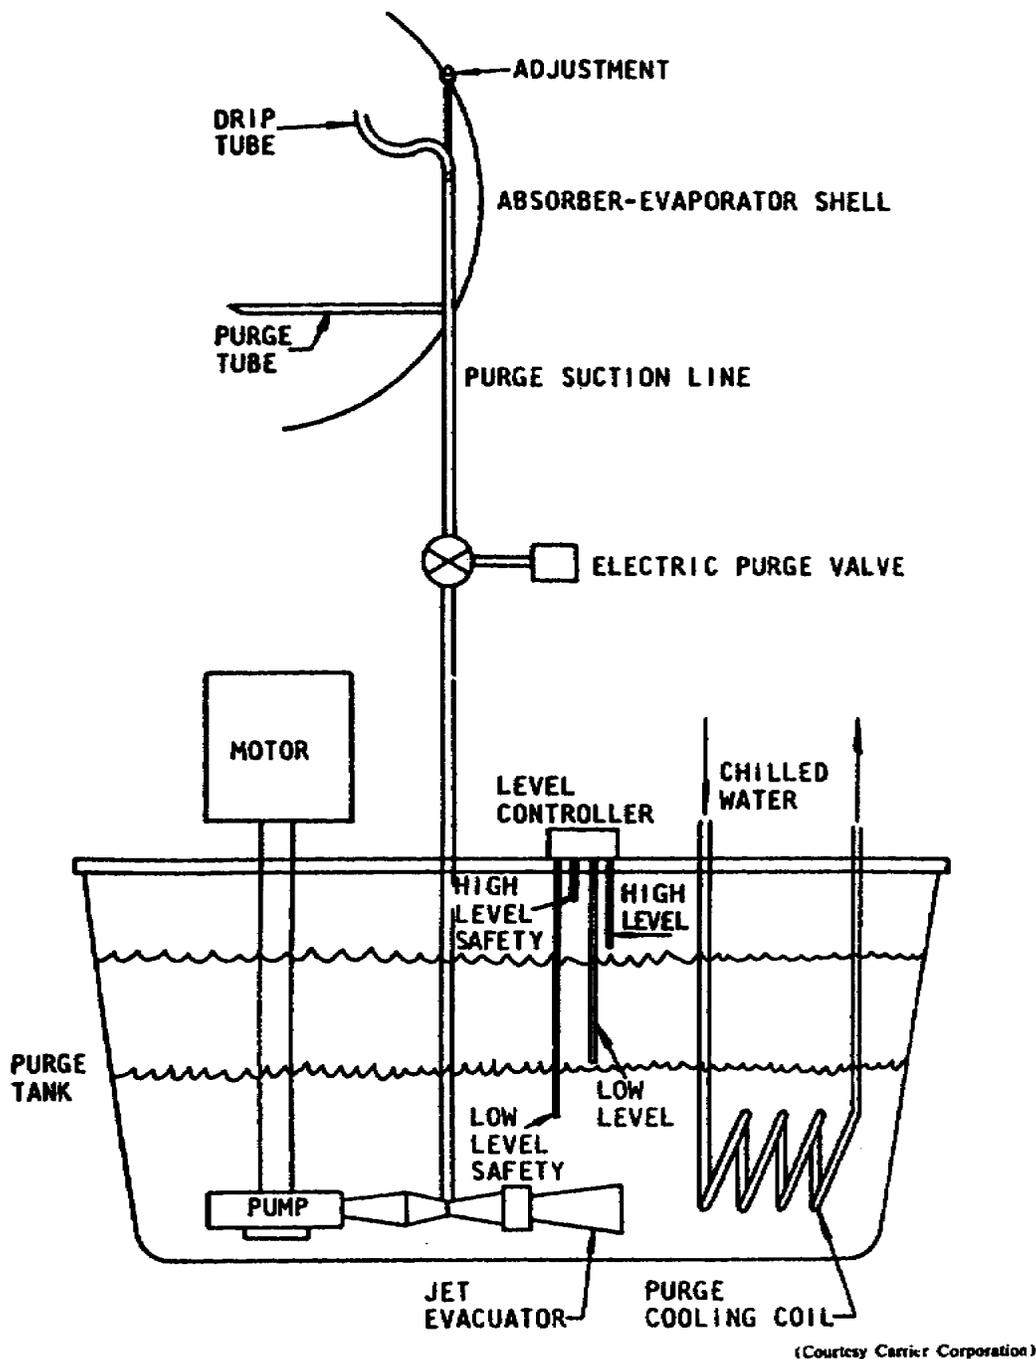

Figure 31. Jet purge unit.
8. *Jet purge.* On some systems, the jet purge, shown in figure 31, has been adapted to the unit. It is entirely automatic and provides a source of very low pressure which is capable of removing noncondensables from the machine when required. Since noncondensables travel from high-pressure regions to low-pressure regions—generator, condenser, evaporator, absorber—the purge suction tube is located in the lower section of the